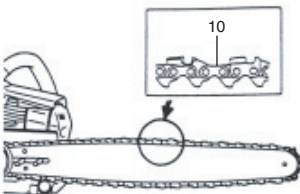

Fig. 5
4. Confirm the direction of saw chain (10) is correct as in the figure, and align the chain on the sprocket. (Fig. 5)